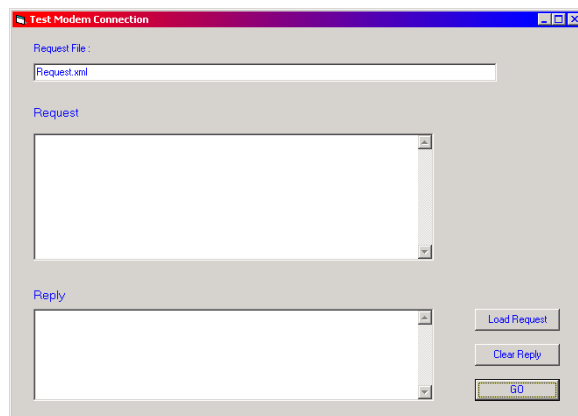

Figure 93. Test Modem Connection Dialog Box
2. Double-click on **TestModemObj.exe**. The Test Modem Connection dialog box shown in Figure 93 appears.